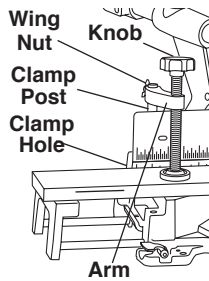

Figure 19. Workpiece Clamp
Clamps - The clamp easily secures a workpiece in either of two (2) clamp holes behind the fence (Figure 19 & 19a).